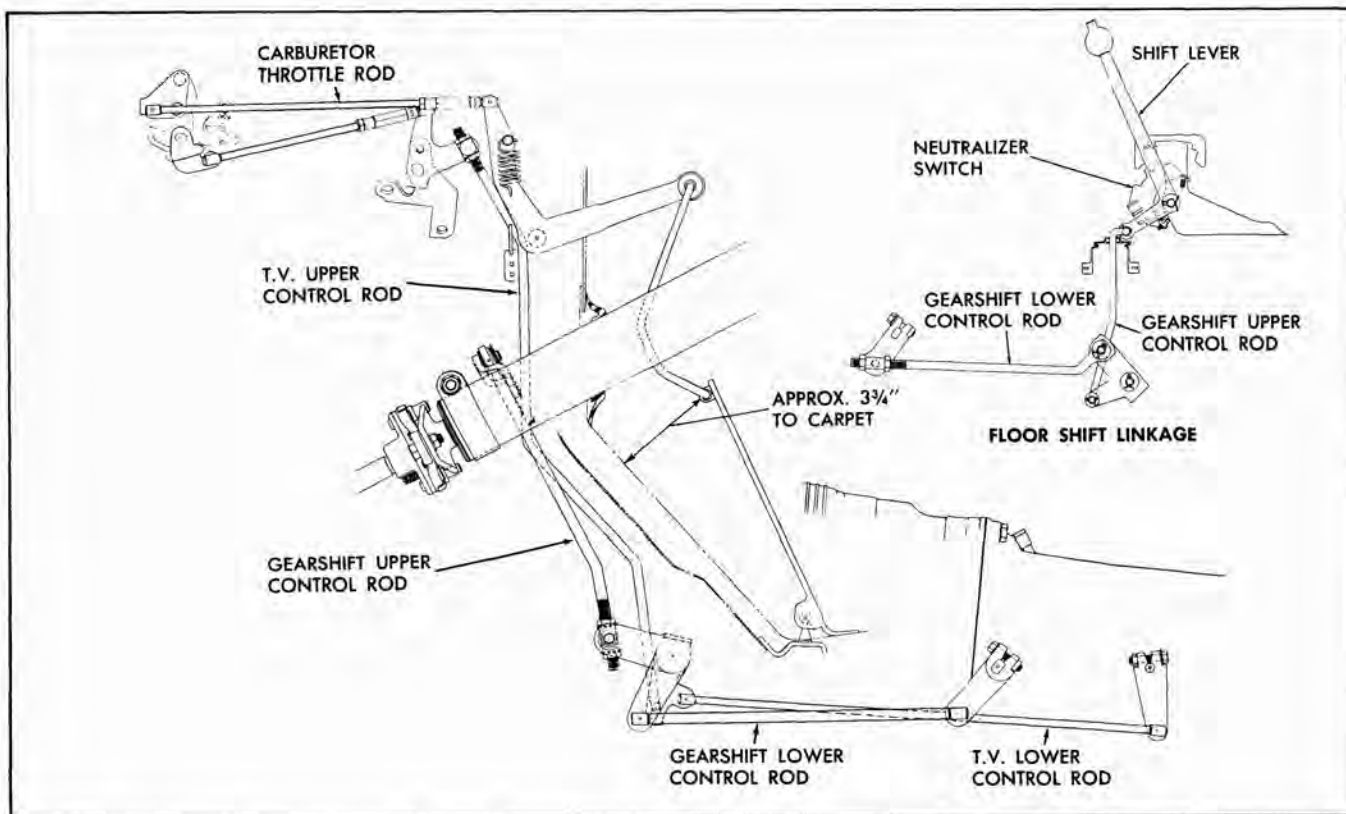

Fig. 36 Accelerator Linkage
9. Adjust carburetor throttle rod to obtain 4.55" clearance from underside of attaching boss on pedal to body toe pan as shown in Fig. 36 (approx. $3\frac{3}{4}$ " to carpet).